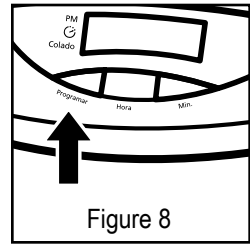

Figure 8
1. While the coffee maker is off, press and hold the “Programar” button. See Figure 8.